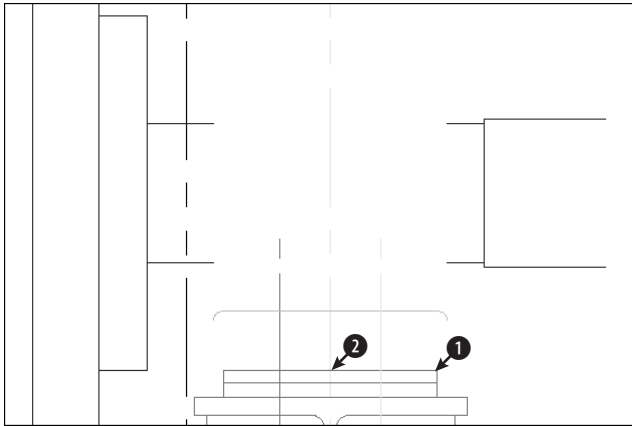

Figure 16-2: A small section of a drive block
2. Save the file as `ab16-01.dwg` in your AutoCAD Bible folder. It shows a small section of a drive block, as shown in Figure 16-2. In this exercise, you complete part of the drawing. ORTHO and OSNAP should be on. Set running object snaps to endpoint, midpoint, and intersection. Layer 3 should be current.
Base point: *Choose 1 in Figure 16-2.*
Base point: *Choose point 2 in Figure 16-2.*